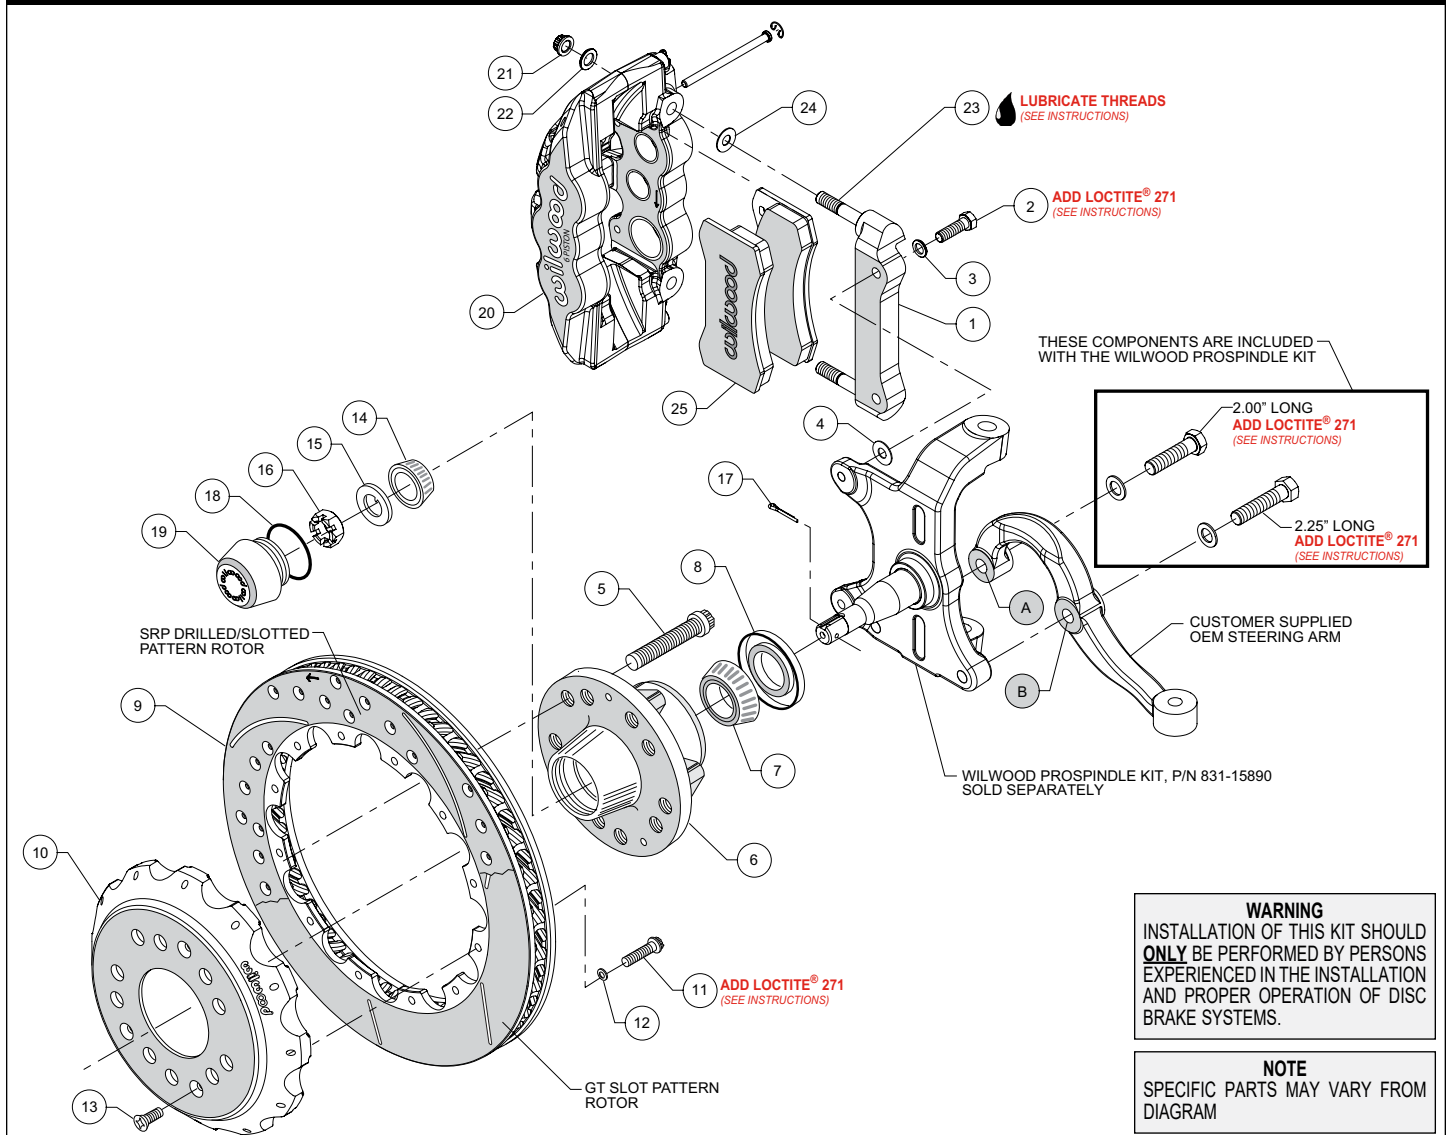
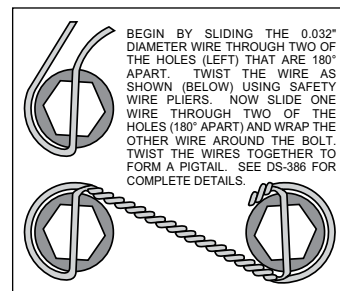

Figure 1. Typical Installation Configuration
Figure 3. Safety Wire Diagram
NOTE: Numbers in parenthesis refer to the parts list and Figure 1 on the preceding pages.
•**NOTE:** Wilwood's AFX ProSpindle kit includes bolts and washers to mount the steering arm (customer supplied) to the spindle. The various bolts are identified by length in the following instructions and in Figure 1.
•Orient the steering arm, and identify the hole marked "A" as shown in Figure 1. Attach arm to spindle using 2.00" long bolt and washer (from ProSpindle kit), Figure 1. Finish attaching the steering arm through the hole marked "B", using 2.25" long bolt and washer (from ProSpindle kit), Figure 1. Temporarily tighten the mounting bolts.
•The caliper mount bracket (1) should initially be installed with clean, dry threads on the mounting bolts. Orient the bracket as shown in Figure 1, and install using bolts (2) and washers (3). Initially place one .035" thick shim (4) on each bolt between the bracket and spindle, Figure 1 and Photo 1. Temporarily tighten the mounting bolts. **NOTE:** The bracket must fit squarely against the mounting points on the spindle. Inspect for interference from casting irregularities, machining ridges, burrs, etc. Later, after the caliper alignment has been checked, the mount bolts will be secured using red *Loctite*® 271.
•Install wheel studs (5) into the hub (6), Photo 2. Torque to 77 ft-lb. **NOTE:** There are two five lug patterns in the hub (5 x 4.50 and 5 x 4.75). Ensure the correct hub stud pattern is being used to fit the wheel application.
•Pack the large inner bearing cone (7) with high temperature disc brake bearing grease (available from your local auto parts store) and install into the backside of the hub (6), Photo 3.
•Install the grease seal (8) by pressing into the backside of the hub (6), flush with the end of the hub, Photo 3.
•Pack the small outer bearing cone (14) with high temperature disc brake bearing grease and install into front of hub (6). Slide the hub assembly onto the spindle. Secure using spindle washer (15) and spindle nut (16), Photo 4. Bearing adjustment: Tighten the nut while turning the hub. When there is a slight bind on the bearings, they are seated correctly. Back the nut off about 1/6 to 1/4 of a turn, or sufficiently to allow .001" to .007" end play. **WARNING:** Failure to back off adjusting nut could cause bearing to run hot and be damaged, which could cause the wheel to lock or come off. Install a new cotter pin (17).
•Screw dust cap (19) into hub (6). Friction created by the o-ring (18) on the dust cap keeps it from unscrewing. **NOTE:** The O.D. of the existing OEM spindle washer may be larger than the I.D. of the dust cap not allowing it to seat against the hub face. Therefore, use the spindle washer (15) supplied with the kit instead of the OEM washer.
- Orient the rotor (9) and the hat (10) as shown in Figure 1 and Photo 5. Attach rotor to hat using bolts (11) and washers (12). Using an alternating sequence, apply red *Loctite*® 271 to the threads and torque bolts to 155 **in-lb**. For an added measure of security, the bolts may be safety wired using standard 0.032 inch diameter stainless steel safety wire as shown in Figure 3. Refer to Wilwood's data sheet DS-386 (available at www.wilwood.com/Pdf/DataSheets/ds386.pdf) for complete safety wire installation instructions.
- Slide the hat/rotor assembly (10 and 9) onto the hub (6) taking care to align the small countersunk holes in the hat with the small threaded holes in the hub. **NOTE:** *The hat must fit flush against the hub face or excessive rotor run out may result.* Install three flat head screws (13) through the small holes in the hat, Photo 6, and torque to 85 **in-lb**.
- NOTE:** *This kit contains distinct right and left hand calipers that must be mounted in a specific direction, as described below.* Lubricate the caliper mounting studs (23) with lightweight oil. Initially place one .030" thick shim (24) on each stud between the caliper and the bracket, as shown in Figure 1 and Photo 7. Mount the caliper (20) onto the bracket (1) using lock nuts (21) and washers (22), Figure 1. Temporarily tighten the lock nuts. Ensure that the caliper is mounted so the largest pistons are at the rotor exit end of the caliper, in relation to the direction of the rotor. View the rotor through the top opening of the caliper. The rotor should be centered in the caliper, Photo 8. If not, adjust by adding or subtracting shims (4) between the bracket and the spindle. Always use the same amount of shims on each of the two mounting bolts. Once the caliper alignment is correct, remove the bracket mounting bolts (2) one at a time, apply red *Loctite*® 271 to the threads, and torque to 40 ft-lbs.
- Remove the caliper (20), then remove the two pad retaining pins from the caliper by carefully popping out the pin retaining clips and sliding out the pins. Insert the brake pads (25) into the caliper from the bottom, Figure 1 and Photo 9. With the friction material facing the rotor, secure the brake pads in place with the pad retaining pins and clips, Photo 10. Reinstall the caliper onto the caliper mounting bracket and temporarily tighten the lock nuts. Check that the top of the brake pad is flush with the outside diameter of the rotor, Photo 11. If not, adjust by adding or subtracting shims (24) between the caliper and the bracket. After the caliper pad height is set, torque the caliper lock nuts (21) to 47 ft-lb.